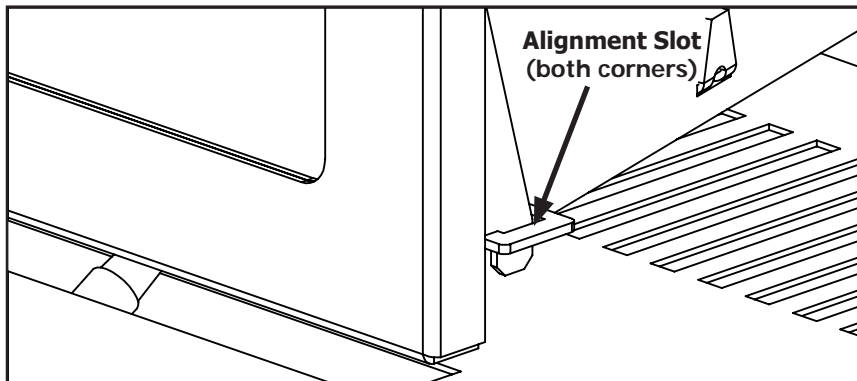

Figure 18. Bottom Alignment Slots for glass door
In order to install the log set, and for regular cleaning, the glass door must be removed. The face must first be removed, as outlined in the section above, before accessing the door latches. There are two (2) door latch mechanisms on top the glass door as shown in Figure 8. Each latch has a hole at the front to use the door tool, supplied with the unit, to pull the mechanisms straight out and up. When the top latches are unhooked, lean the door forward and then lift it up out of the alignment slots at the bottom corners of the firebox, shown in Figure 18.